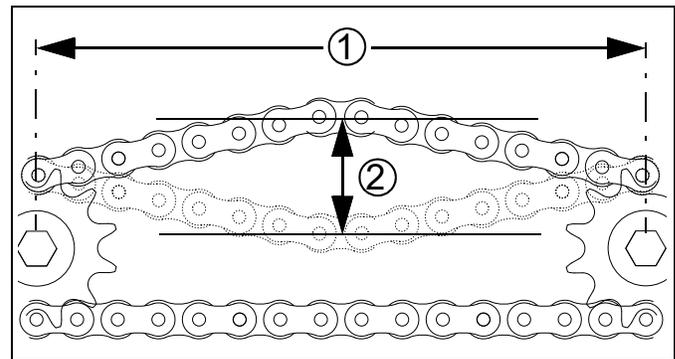

Figure 43
**Refer to Figure 43, which, for clarity, greatly exaggerates slack, and omits the idlers.**
1. Measure the span ① for allowable slack: Locate the longest span of each chain (usually the span which does not run through the idlers). The ideal slack is between 2% and 4% of the span. For example: A slack of 1 cm is appropriate for a 30 cm span.
2. Measure the current slack ②: Acting at a right angle to the chain span at the center of the span, deflect the chain in both directions with a force of about 9 pounds (4 kg). The slack is the distance of the movement.